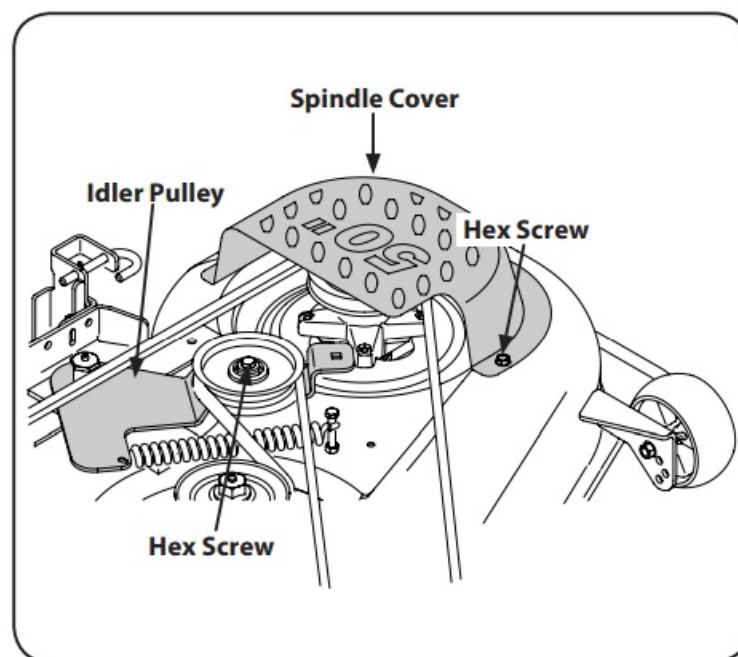

Figure 7-4
2. Remove the spindle covers by removing the self-tapping screws that fasten them to the deck. See to Fig. 7-4.
3. Loosen the hex screw fastening the idler pulley to the idler arm as necessary to slide the belt from between the idler pulley and idler arm. See Fig. 7-4.